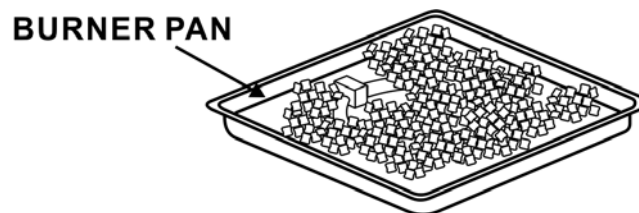

Figure 11
11. Pour ALL the provided media (fire ice or lava rock) into the burner pan. Burner MUST be completely covered to ensure the appliance functions properly and safely. Remove any lava rocks or fire ice on top of the ignition well. See figure 11.